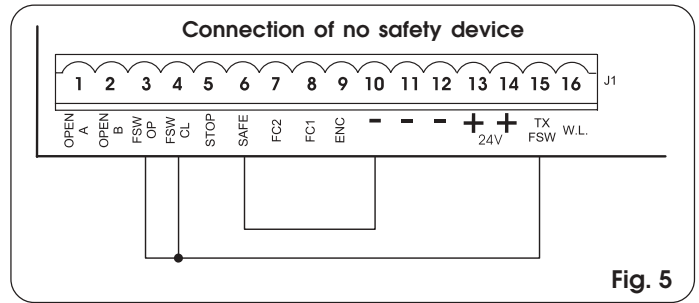

Fig. 5
**N.B:** If safety devices are not used, jumper connect the terminals as shown in fig. 5.
**NB.:** If no opening safety devices are connected, jumper connect inputs **FSW OP** and **-TX FSW** (fig. 5).
**NB.:** If no closing safety devices are connected, jumper connect terminals **FSW CL** and **-TX FSW** (fig. 5).
**NB.:** If edge safety devices are not connected, jumper connect the **SAFE** and - inputs (fig. 5).